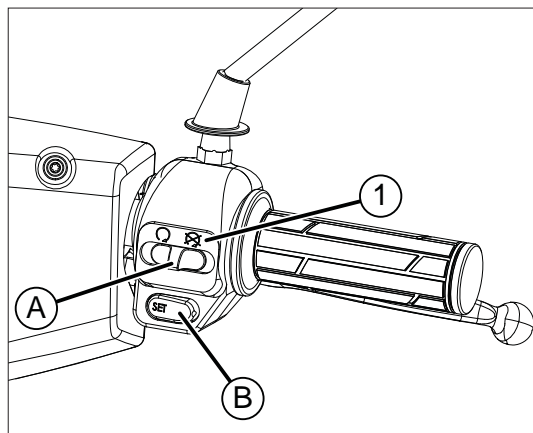

fig. 2
1. move lever A fig. 2 in position 1, leaving the ignition key in the ON position;